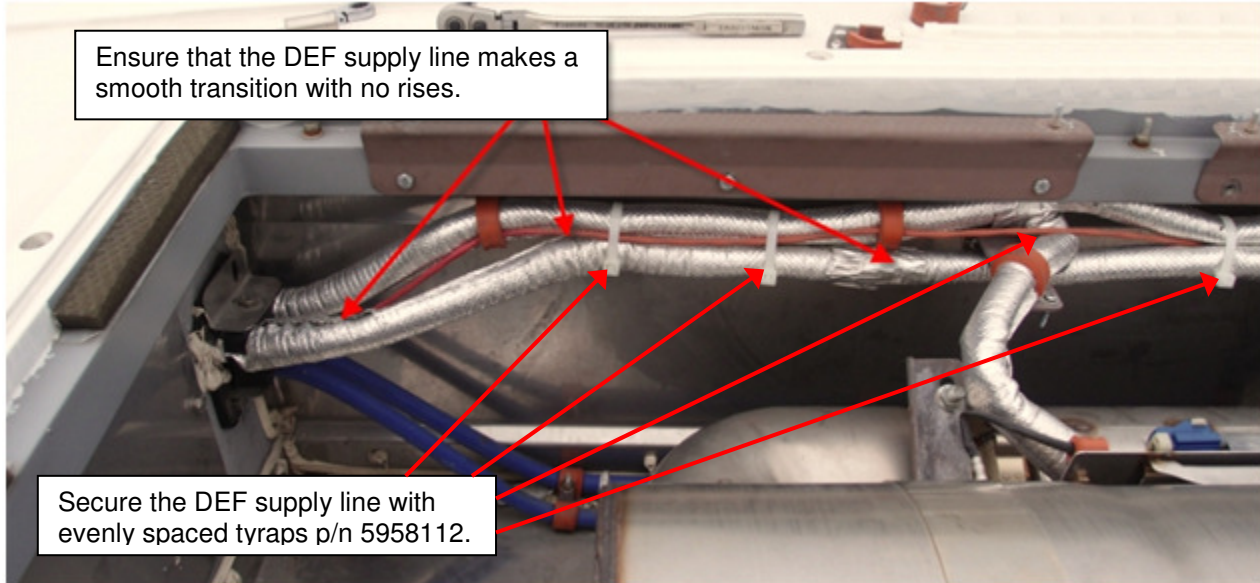

Figure 3: DEF Supply Hose Routing
7. Secure the existing DEF supply hose assembly to the existing SCR harness bundle using evenly spaced tyrap p/n 5958112. Ensure the DEF supply hose makes a smooth transition with no rises. See Figure 3 & 4.